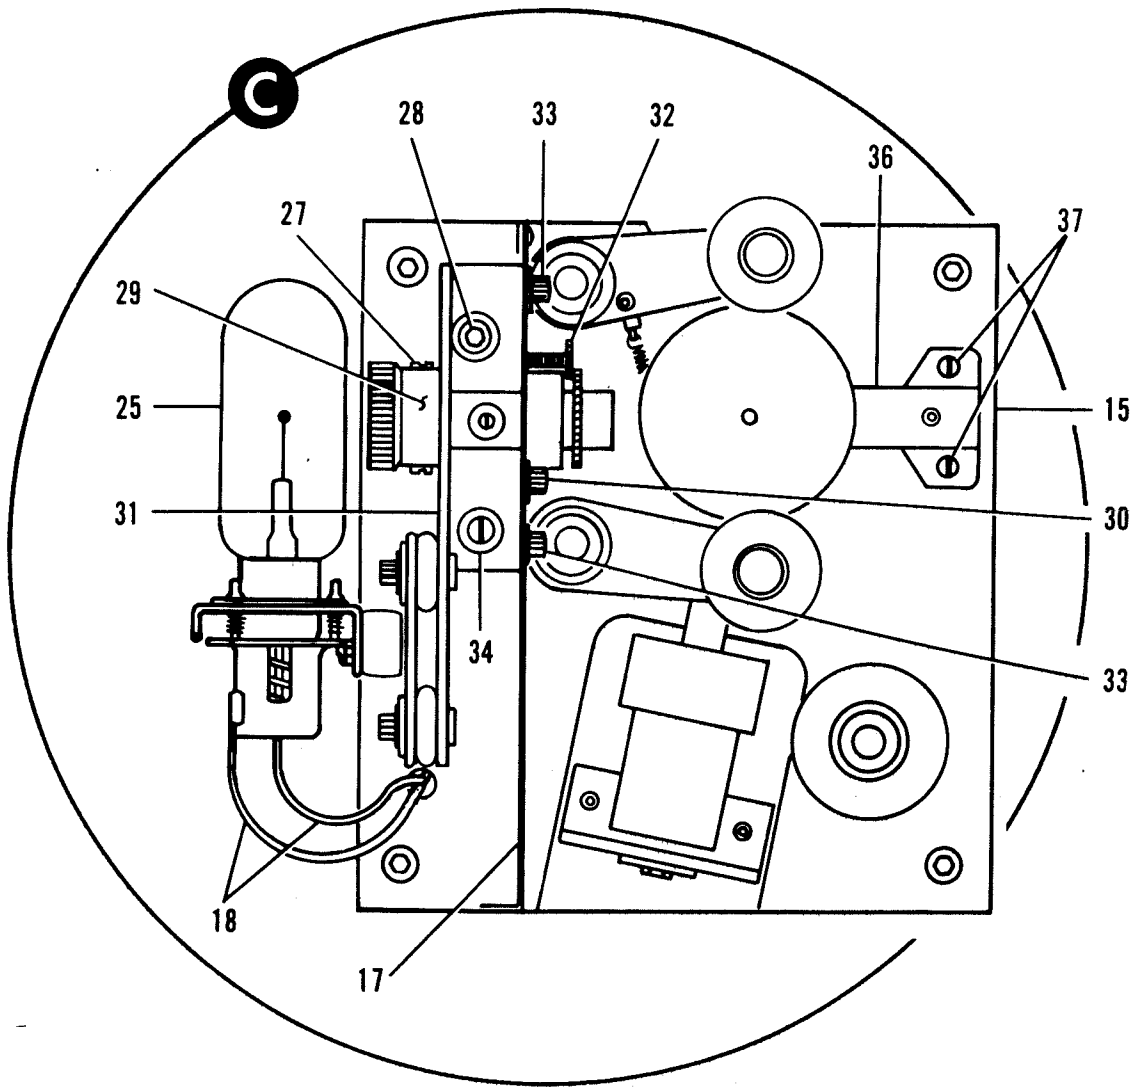

FIGURE 3-3. PROJECTOR PARTS LOCATION
4-11. Removal of Sound Head and Solar Cell Assemblies. (15, Figure 3-3)
1. Remove bracket (17, Figure 3-3) by removing two phillips head screws and two allen screws.
2. Disconnect two exciter lamp leads (18, Figure 3-3) at terminal block TB-3. If solar cell assembly (36, Figure 3-3) has not been removed, disconnect wiring at terminal block TB-3.
3. Remove four allen head screws securing sound head assembly to main frame, then remove sound head assembly (15, Figure 3-3).